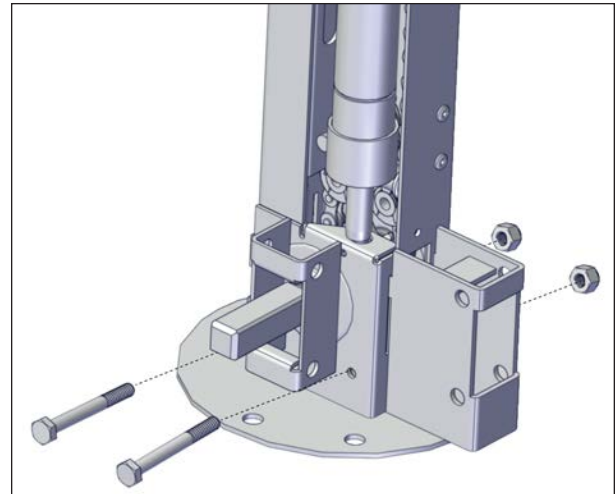

FIGURE 34: SCREW INSTALLATION
- Install two 1/4" x 2 1/4" hexagonal head screws and nylon-insert lock nuts. Use the appropriate socket wrench spanner to fasten the foot in place, see Figure 34.
Make sure you respect the orientation of the fasteners, as shown in Figure 34.